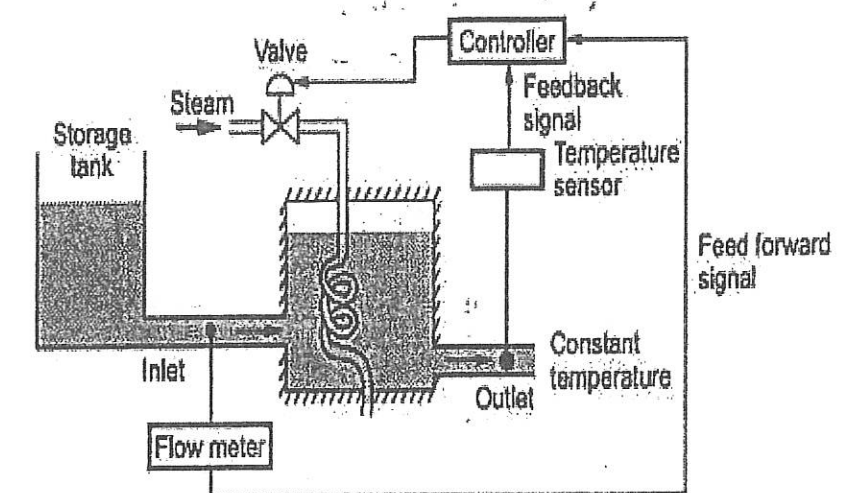

Figure 1/ Rajah 1
- (c) Figure 1 shows a control process comprising of feedback control and feed forward control. Sketch a block diagram of the system.